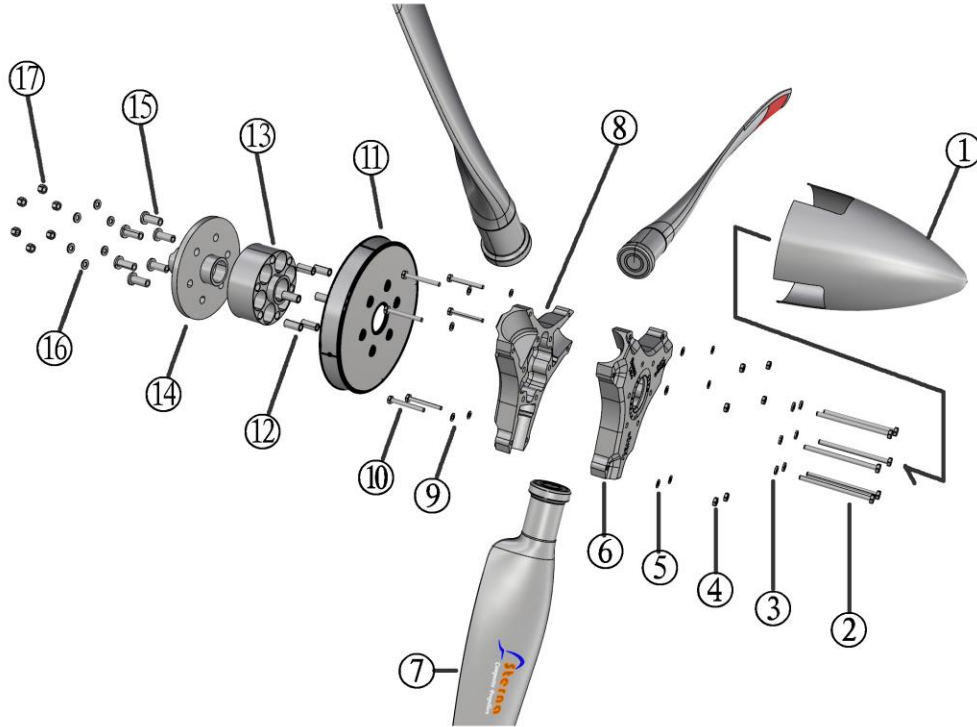

Figure 3: 3 Blade Propeller Assembly (Exploded View)
1. Refer to **Figure 3** in the 3 Blade Propeller Assembly (Exploded View) for the position reference of part numbers 6, 7 and 8. Place the hub mount half (**side B**) flat on a suitable level workbench with engraving side down.
3. Place the hub top half (**side A**) over the assembled blades, then install the AN4-21A bolts, AN960-416L washers and AN365-428A nuts into applicable bolt holes for each blade. Use two washers per bolt with one installed under the head of the bolt and one under the nut. There are (2) retaining bolts per blade.
2. Place rear spinner backplate as shown in **Figure 3** and the assembled propeller on the propeller mounting flange. Check for proper bushing fit into the hub mount half.
3. Place the washer on bolt and insert the mounting bolt through the assembled hub and into the flange bushings as shown in **Figure 3**.